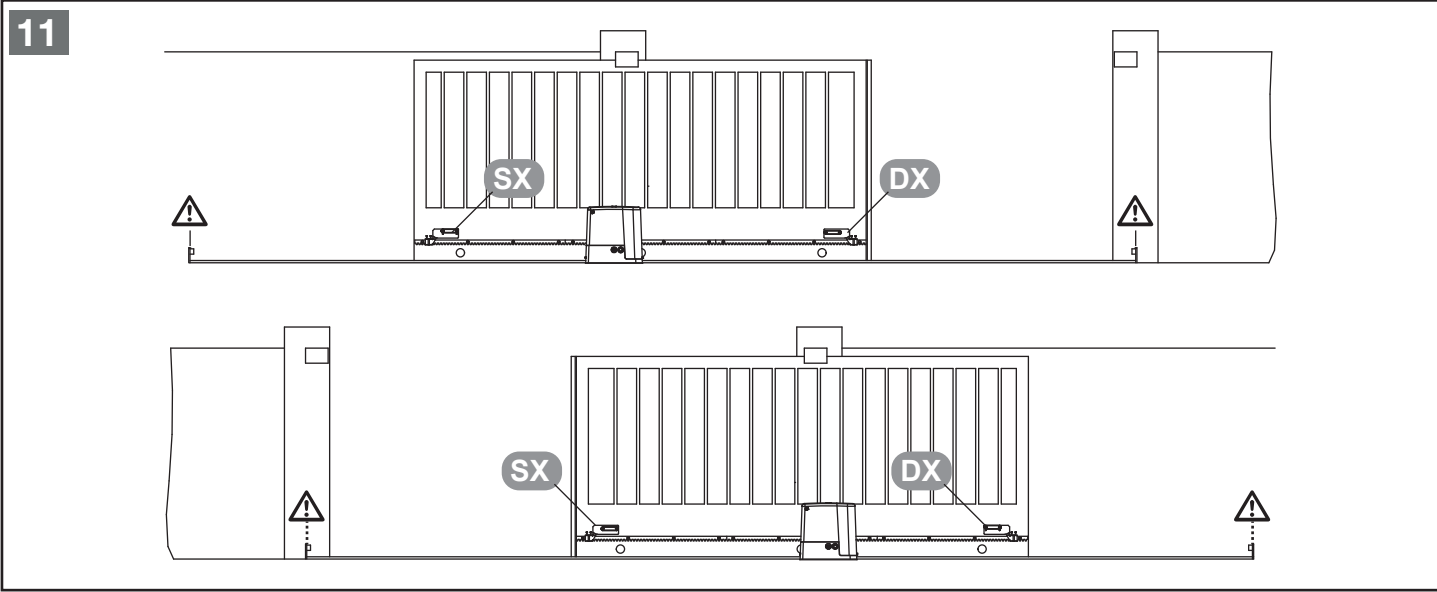

Figure 11 End positions
Firstly, fix the two magnet holders in the corresponding end positions on the gear rack using the screws supplied. Then install the magnets in the holders, ensuring that the red magnet (SX) is installed on the left and the blue magnet (DX) is installed on the right (see "**Figure 11 End positions**"). Determine the correct distance to the two reed contacts. To do this, unlock the opener and slide the gate into the gate open and gate closed end positions.